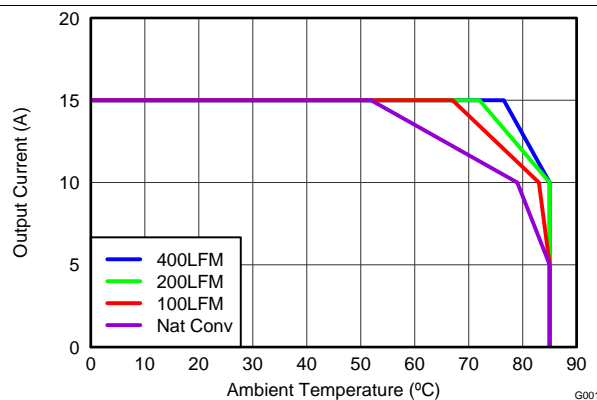
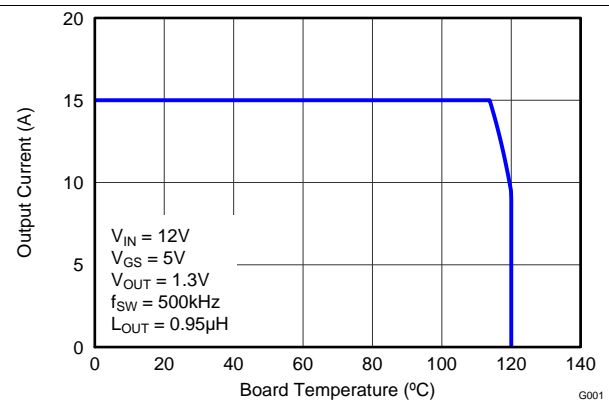

Figure 3. Safe Operating Area – PCB Horizontal Mount
Figure 4. Typical Safe Operating Area
$T_J = 125^{\circ}\text{C}$ , unless stated otherwise. For Figure 3 and Figure 4, the Typical Power Block System Characteristic curves are based on measurements made on a PCB design with dimensions of 4 inches (W)  $\times$  3.5 inches (L)  $\times$  0.062 inch (H) and 6 copper layers of 1 oz. copper thickness. See Application and Implementation for detailed explanation.
$T_J = 125^\circ\text{C}$ , unless stated otherwise. For Figure 3 and Figure 4, the Typical Power Block System Characteristic curves are based on measurements made on a PCB design with dimensions of 4 inches (W)  $\times$  3.5 inches (L)  $\times$  0.062 inch (H) and 6 copper layers of 1 oz. copper thickness. See Application and Implementation for detailed explanation.
The SOA curves in the CSD87381P data sheet provides guidance on the temperature boundaries within an operating system by incorporating the thermal resistance and system power loss. Figure 3 to Figure 4 outline the temperature and airflow conditions required for a given load current. The area under the curve dictates the safe operating area. All the curves are based on measurements made on a PCB design with dimensions of 4 inches (W) × 3.5 inches (L) × 0.062 inch (T) and 6 copper layers of 1 oz. copper thickness.